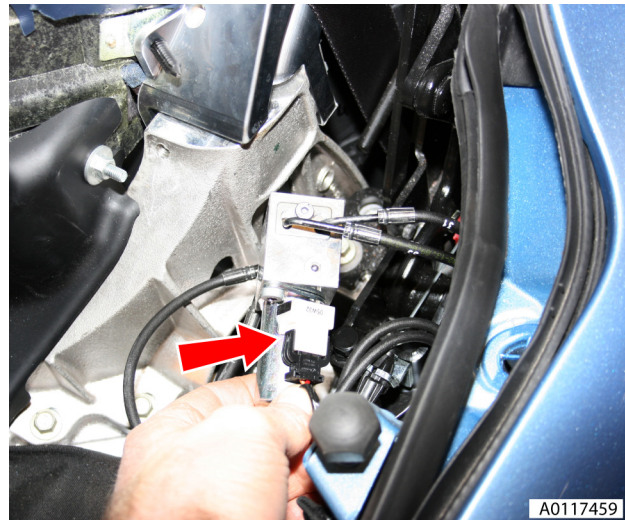

Fig. 16
32. Disconnect multiplug (see Fig. 16).